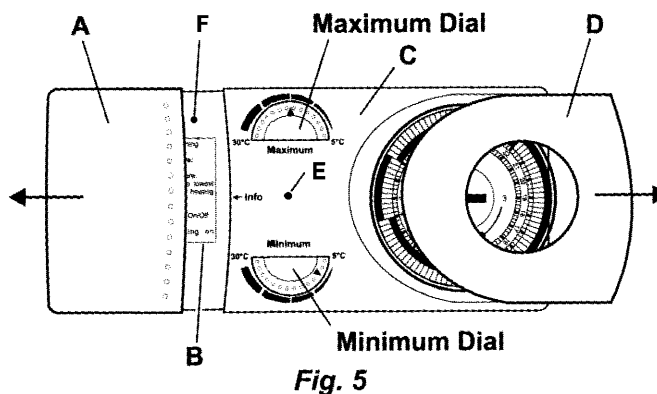

Fig. 5
5. User Instructions - see Fig. 5
Maximum setting - Rotate the Maximum dial (see Fig. 5) to give the required room temperature upto 30°C when heating is on.
Minimum setting - Rotate the Minimum dial (see Fig. 5) to a lower temperature down to 5°C to ensure that when the heating is off a minimum room temperature is maintained.